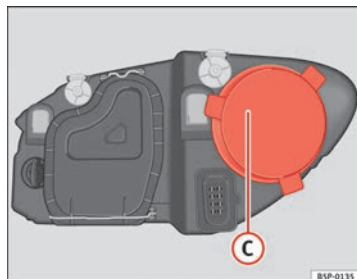

Fig. 182 Main beam headlights
- Remove the cover ⇒ fig. 182 C by pulling on this.